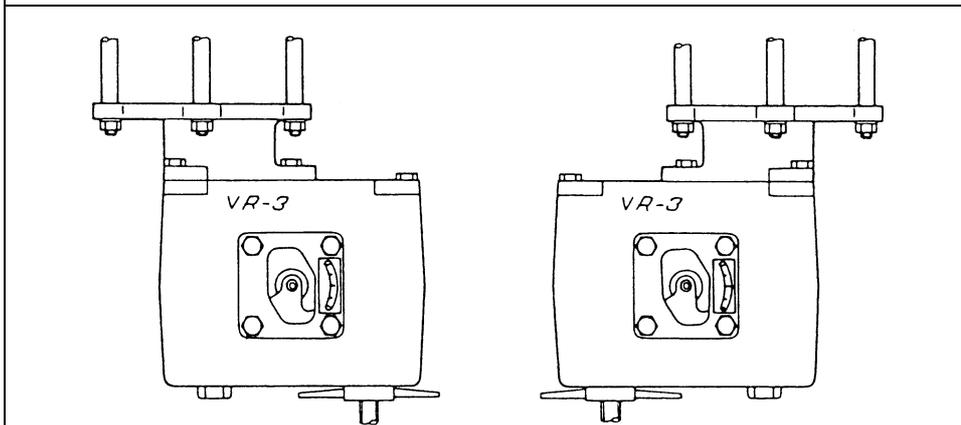

Figure 5-3 For model VPR
- (4) Remove the connecting-bolts from the intermediate bracket and main bracket, and change their positioning as shown in Figure 5-3.